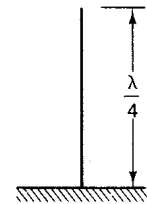

Fig. 6-22
- 6.8** Determine the optimum length of a Marconi antenna for the transmission of a 100-MHz signal. The velocity factor for the antenna is 0.90. See Fig. 6-22.